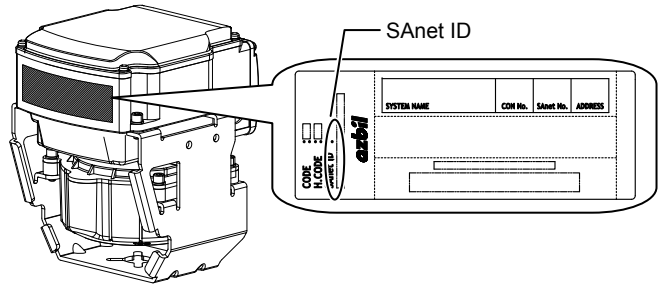

Figure 11. SAnet ID on the product code label
2. With Data Setter or PC-MMI, enter the SAnet ID (on the product code label) and address number to set. The product code label is attached on the side surface of the actuator, as shown in Fig. 11.